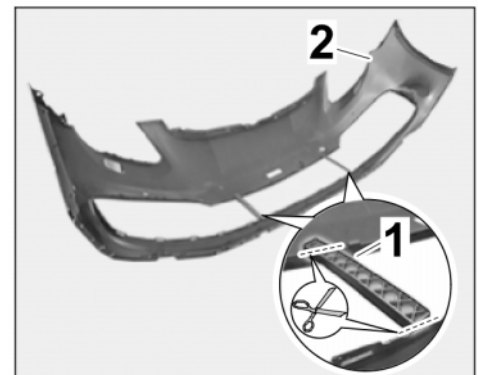

Figure 16
3.2.1 Cut bar (stabilising element during transport) off the front apron (⇒ *Figure 16*).